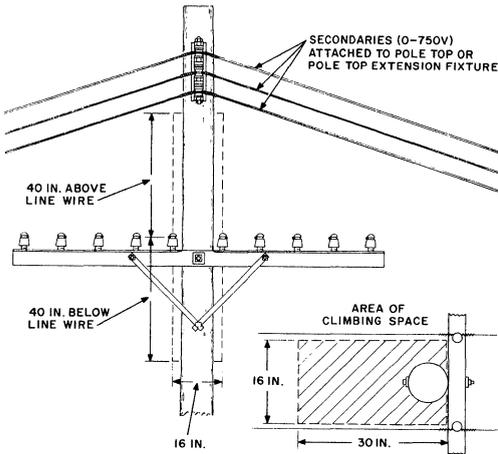

Fig. 3—Secondary Feeder Crossing Over Telephone Lines
3.04 If the only supply conductors at a level above telephone cables, conductors, etc., are secondaries (0-750 volts between conductors) supplying airport or airway marker lights, or crossing over the telephone line and attached to the pole top or to a pole top extension fixture, the width of the climbing space measured across the line may be reduced to 16 inches (Fig. 3).